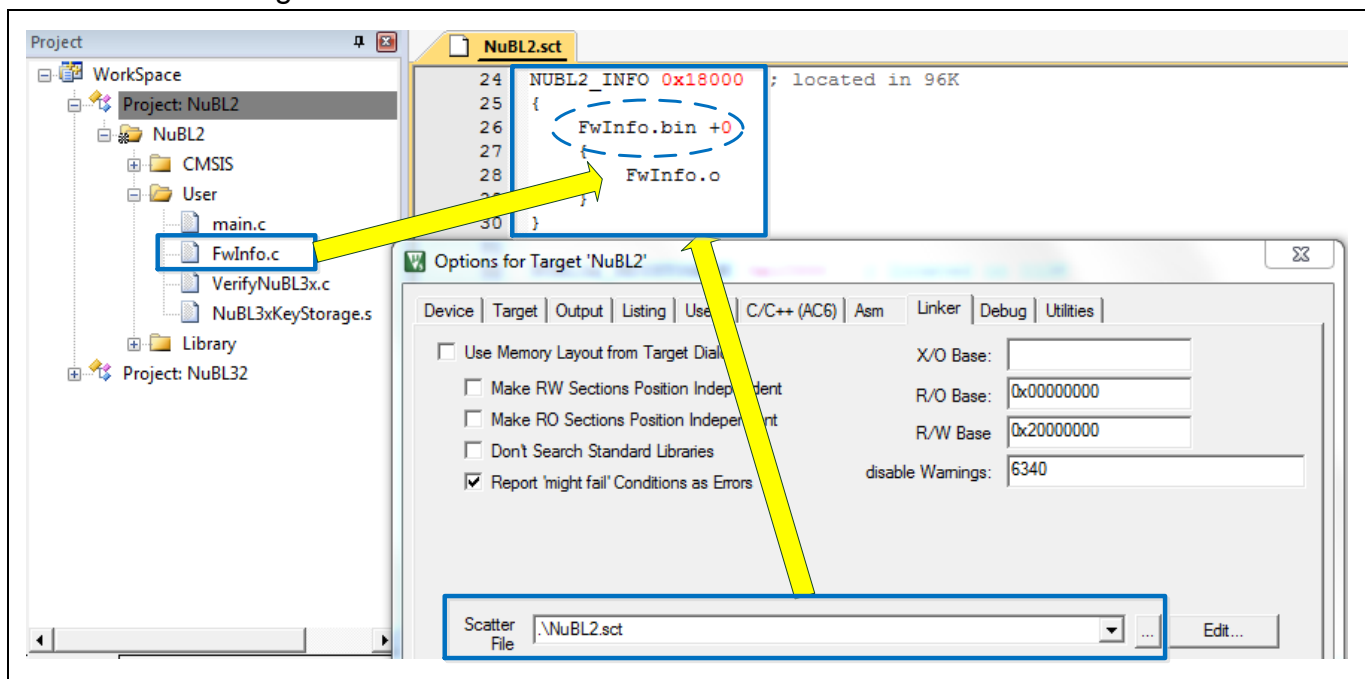

Figure 5-8 Configure NuBL2 Firmware Information
2. Add a scatter file to configure the NuBL2 firmware information output file and its address as shown in Figure 5-8.